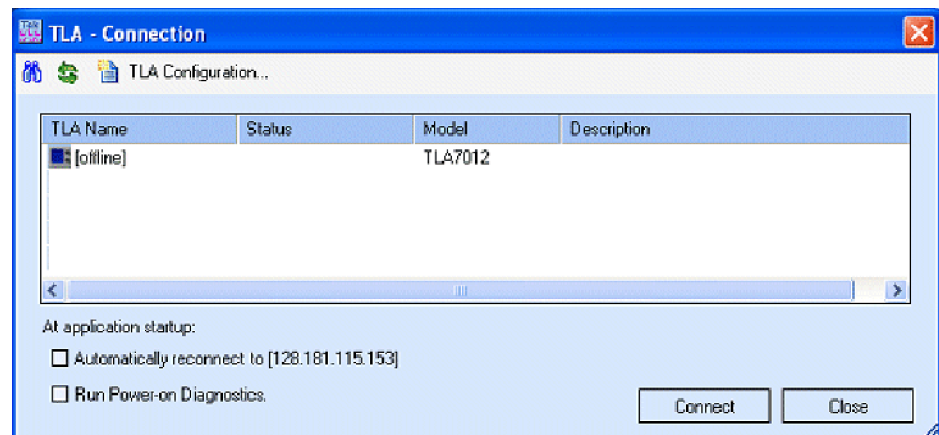

Figure 15: TLA Connection dialog box
10. Start the TLA application by double-clicking the TLA Application icon on the controller. The TLA Connection dialog box appears. (See Figure 15.)